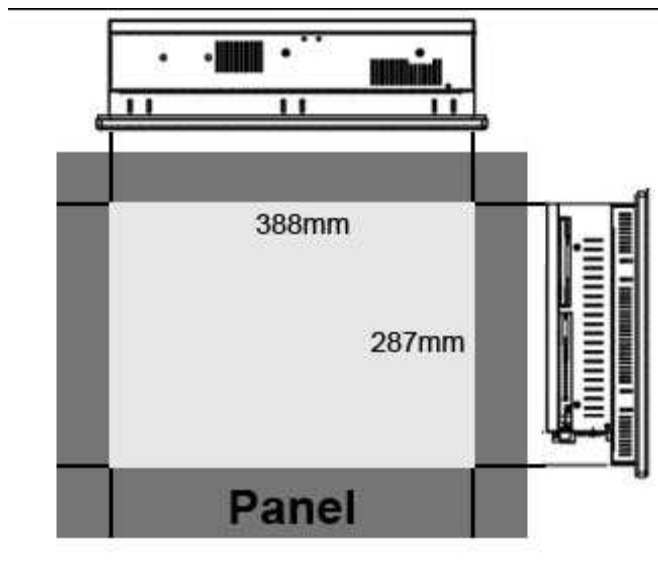

Figure 3-14: Cut the Panel
Step 2: Cut out a section from the panel that corresponds to the rear panel dimensions of the IVC-15PC-P. Take care that the panel section that is cut out is smaller than the overall size of the metal frame that surrounds the IVC-15PC-P but just large enough for the rear panel of the IVC-15PC-P to fit through (see **Figure 3-14**).